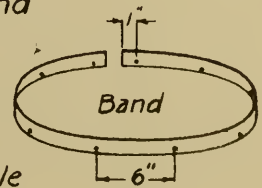

FIG. 4.
7. Make door as shown in sketch (Fig. 4), having it lap $\frac{1}{2}$ " all around on cabinet; rivet on hinges and bolt hinges to cabinet.
11. Cut two bands for can $57''$ long, one band $1\frac{1}{2}'' \times \frac{1}{8}''$ for the top and one band $2'' \times \frac{1}{8}''$ for the bottom. (Fig. 4).
13. Take bands and cut on mark for length and punch holes about $6''$ apart near one edge of band. (Fig. 4).